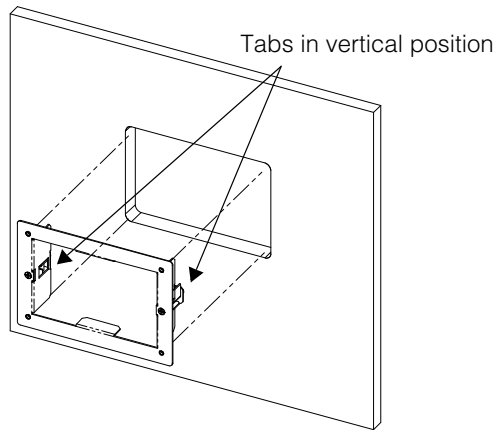

Figure 2-4 Inserting the Mounting Plate
3. Insert the mounting plate with the two tabs in a vertical position into the hole (see Figure 2-4).